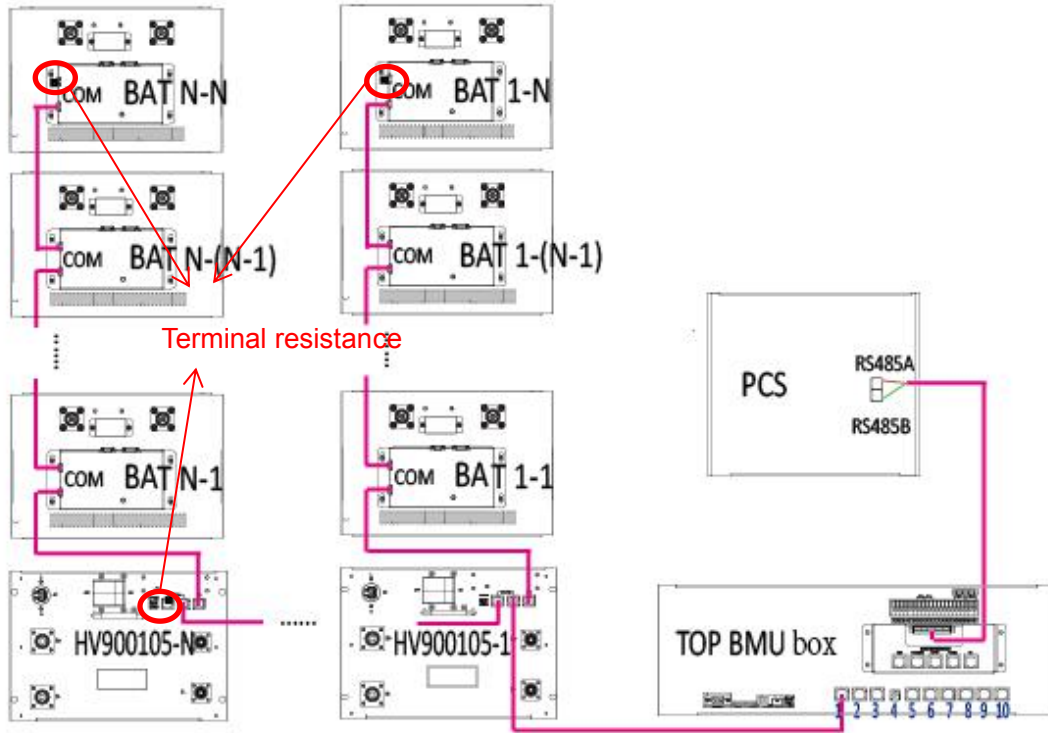

Figure 4-13 Battery side communication cables connection
D. Connect HV900105 (COM Port) in the nearest cluster from TOP BMU and TOP BMU box (COM Port, Port 1 or 2) by using the communication cable from TOP BMU part list. Then connect HV900105 (COM port) one by one by using cable from HV900105 parts list, please see Figure 4-13.